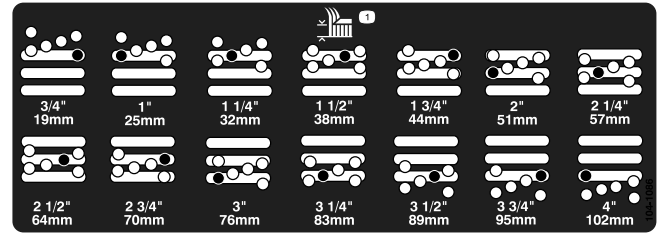

Figure 10
4. While supporting the chamber, remove the spacer (Figure 10).
5. Move the chamber to the desired height-of-cut and install a spacer into the designated height-of-cut hole and slot (Figure 10).